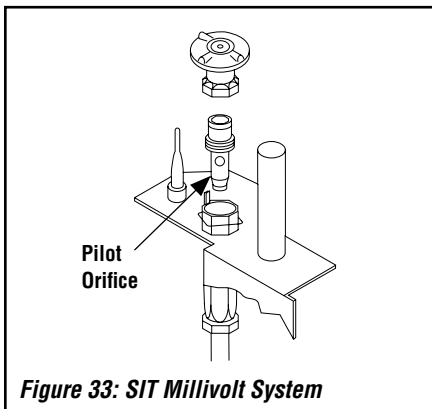

Figure 33: SIT Millivolt System
Step 7. (Millivolt systems only): Refer to **Figure 33**. Remove the pilot hood assembly to access the hexed pilot orifice. Remove and replace the orifice with the one provided in the kit.